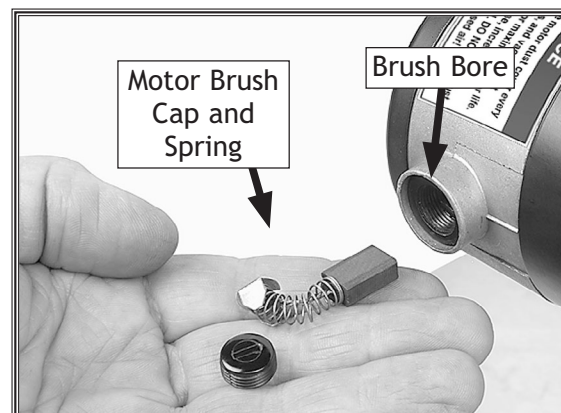

Figure 53. One of two feed motor brushes.
3. Unscrew the brush covers from both sides of the motor, and remove the brushes, shown in **Figure 53**.